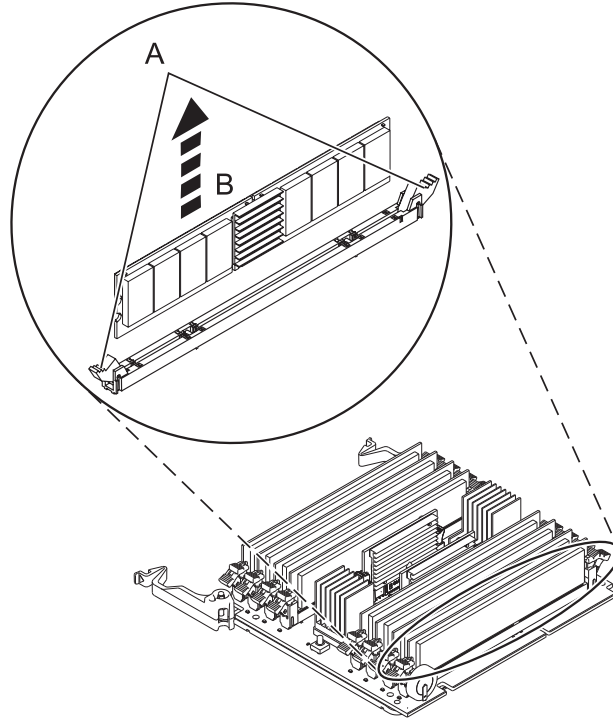

Figure 20. Removing a memory module
11. Unlock the memory module by pushing the locking tabs (A) open as shown in Figure 20 on page 25. Lift the memory module (B) out of the connector. The lever action of the tabs forces the memory module out of the connector.